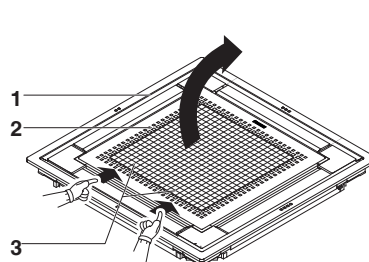

Fig. 1
- Push the suction grille lever (3) inward and open the suction grille (2). (See Fig. 1)